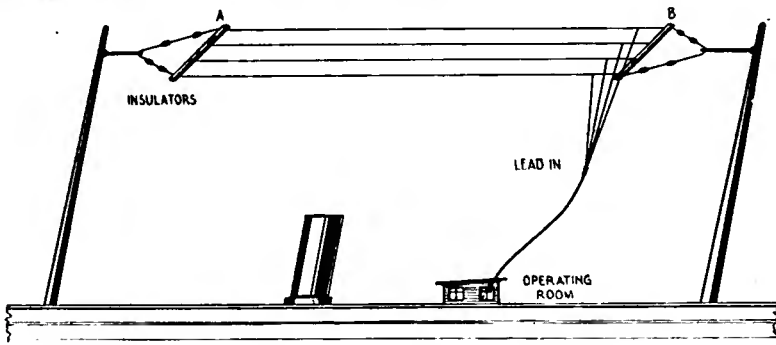
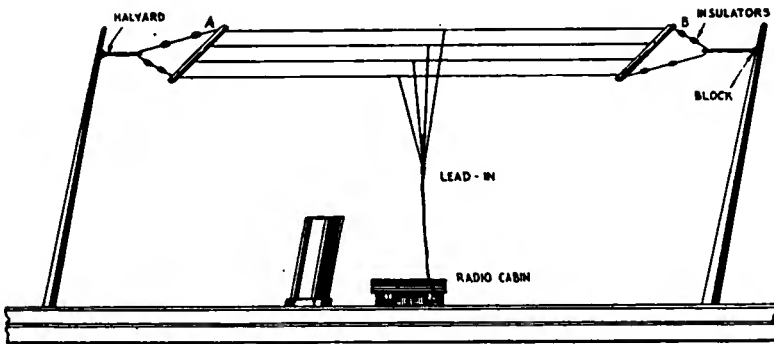

Figure 111
Figure 112
- (3) Figure 111. To show the construction of the inverted "L" flat top aerial.
- (4) Figure 112. To show the construction of the "T" flat top aerial.
The **inverted "L" flat top aerial** shown in figure 111 is employed almost universally for ship service. It consists of a number of parallel wires stretched between the wooden spreaders A, B. This is known as the **flat top portion** of the aerial. The vertical wires are attached to one end of the flat top from which they extend to the apparatus in the wireless cabin. These wires are known as the **lead-ins**.
The construction of the flat top portion of the aerial shown in figure 112 is the same as the type shown in figure 111 but the lead-in wires are attached to the center. This type is known as the **"T" aerial**.